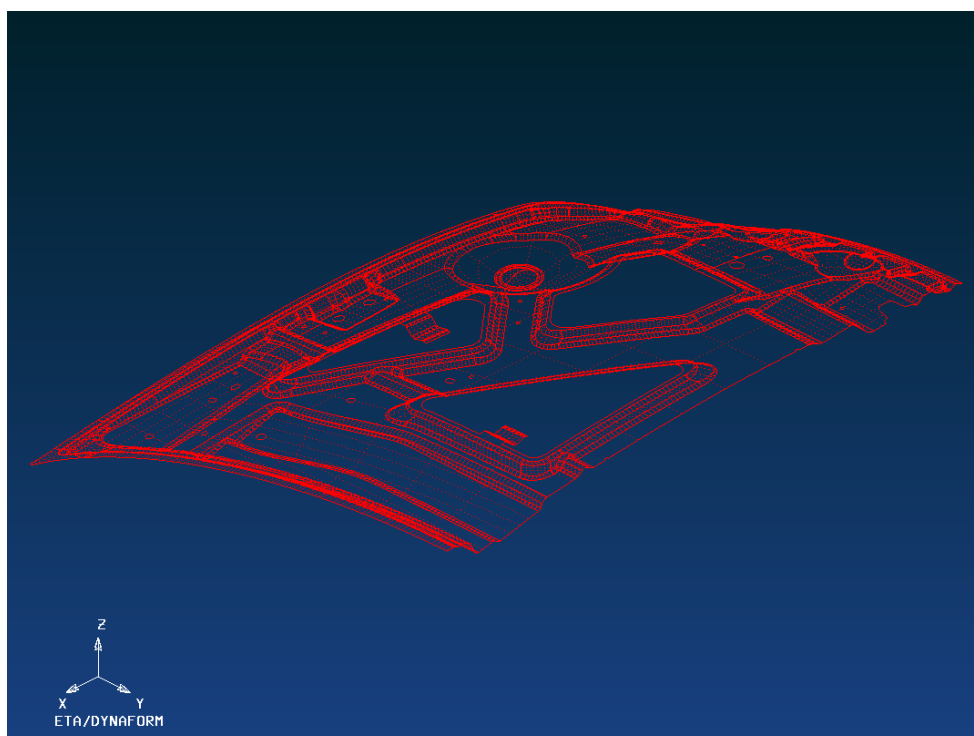

Figure 2 Illustration of model
3. Use your mouse cursor to select the data file, following by clicking the **Import** button. Now, the model illustrated in Figure 2 is displayed on the display area.